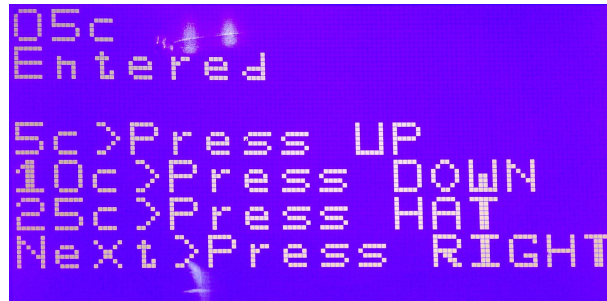

Fig 2: Entered Dime Screen
- Display total money entered till now. (As in Fig 2, Fig 3 and Fig 4)